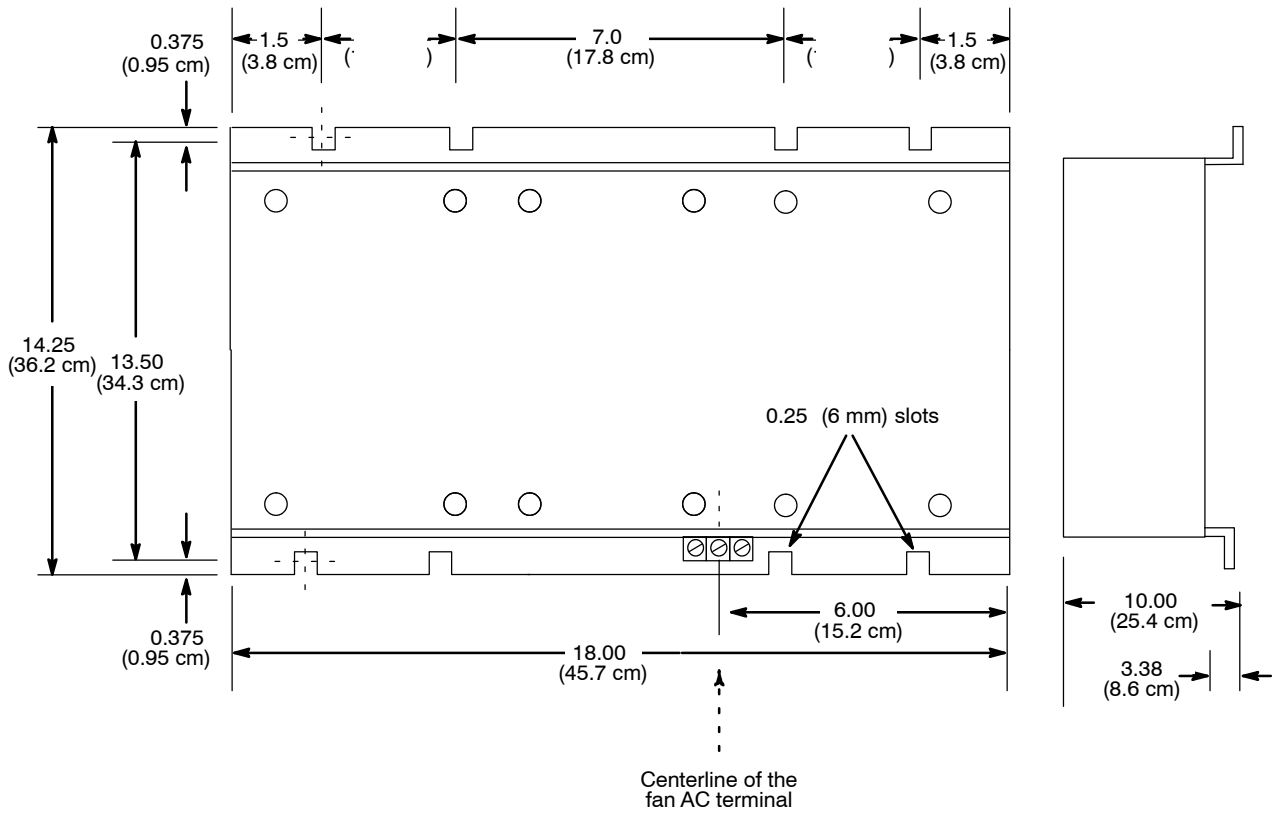

Figure 18 Mounting Dimensions for the CL1060 Drive
2. Refer to Figure 18 for mounting dimensions.